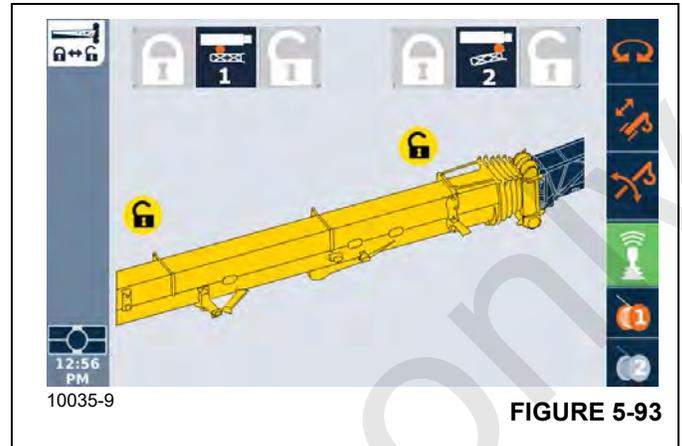

FIGURE 5-93
- e. Turn the nob (3) to relieve the pressure to retract the jack pin.
21. In the ODM display (Figure 5-93), make sure that ODM shows that the boom extension is erected.